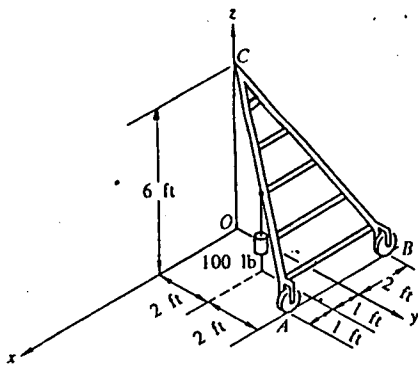

Fig.4
4. (20%) A light ladder shown in Fig.4 rests on a rough floor and leans against a smooth wall. Rollers are installed at the base of the ladder, A and B, such that the ladder can roll along the x-direction without friction. A weight of 100 lb is hung on the ladder as shown. What is the minimum coefficient of friction between the roller and floor which prevents the base of the ladder from sliding in the y-direction?